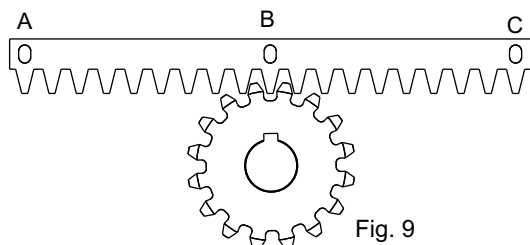
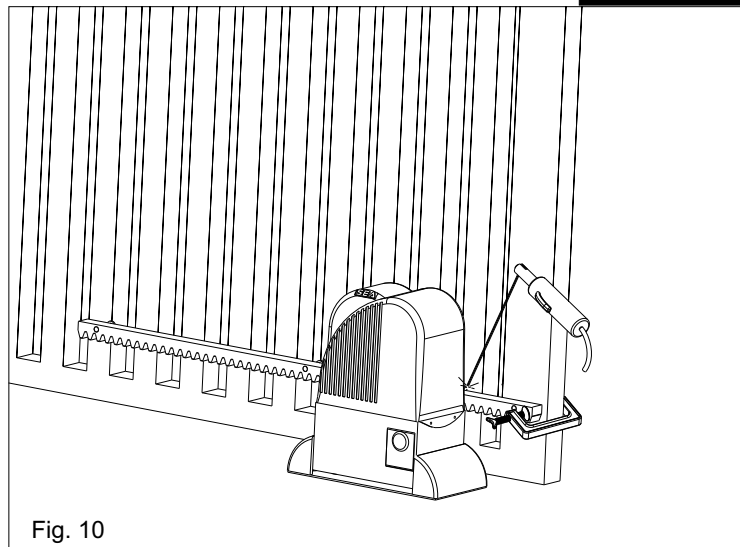

Fig. 9
Fig. 10
6.3. Lay the section of rack on the pinion of the operator as in Fig. 9 so that it results parallel to the pavement guide of the gate and tack weld the central bolt B to the gate (Fig. 10). Manually slide the gate to set the bolt C close to the pinion and tack weld them; repeat with bolt A.